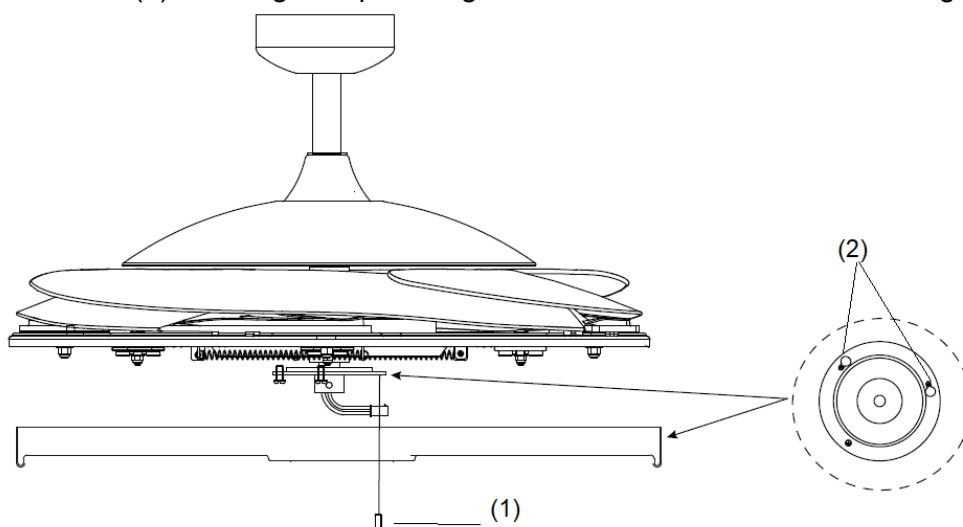

Fig. 7
LIGHT KIT INSTALLATION (Fig.7 & 8)
1. Loosen the screw (1) from the fan bracket. Align the two slot screws with the keyhole slots (2) of the light kit plate. (Fig. 7)
2. Turn the light kit plate counterclockwise until the slot screws are firmly at the end of the slots (2).
3. Secure screw (1) to the light kit plate. Tighten all three screws. Do not over-tighten.